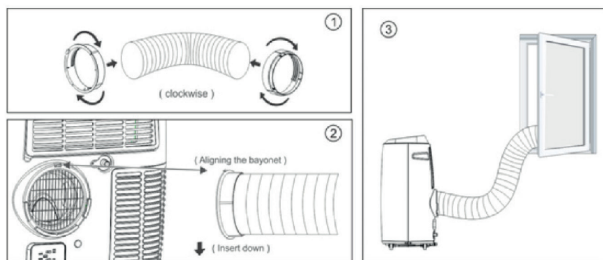

Fig. 9
3. Put the other end of the exhaust hose to the near windowsill.(See Fig.9).